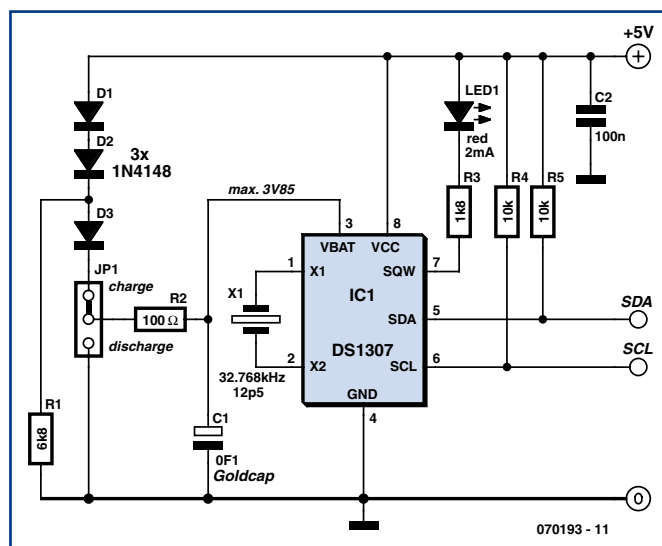

Figure 1: A few additional components are required to use a GoldCap to back-up the DS1307.
the output signal has twice the frequency of the input signal, as shown in **Figure 1**. In this example the phase difference between the signals is exactly 90°. This ensures that signal Y has a duty cycle of exactly 50%. When the
with the DS1307. As the supply voltage continues to fall below the battery voltage VBAT the DS1307 switches into low-current mode. With these constraints in mind the circuit shown in **Figure 1** was produced. Resistor R1 draws current through diodes D1 and D2 which together produce a voltage drop of around 1.2 V. With a supply of 5 V the voltage at VBAT is approximately 3.85 V. D3 prevents the GoldCap being discharged when the supply voltage falls and R2 limits the charging current (and discharge current when jumper JP1 is used to discharge C1, this process takes a few minutes).
The Dekatron consists (see **Figure 1**) of a central circular anode (a) and ten cathodes (k), numbered from 0–9. Between adjacent cathodes are two transfer electrodes, guides (A) and (B). A voltage applied between the anode (a) and the cathodes causes ionization of just one of the cathodes. To move on to the next cathode, a short negative pulse is applied to the next cathode. To drive a Dekatron takes a minimum of one triode or one transistor or a transformer, together with a differentiator circuit followed by an integrator. In the 60s, transistor circuits were developed for this purpose. *Note that the Dekatron shown in Figure 1 has a different pinout from the one in the circuit diagram. They are two quite different devices.*